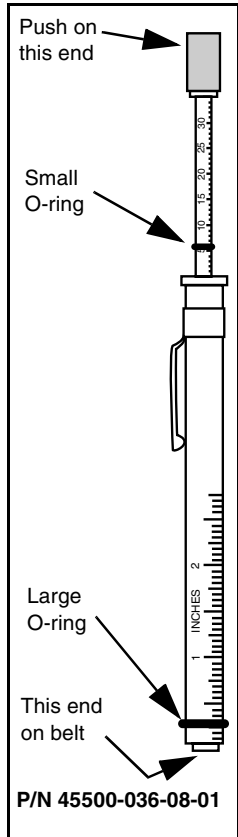

Figure 24. Belt Tension Tester
- 3) Position the bottom of the large O-ring on the tester (Figure 24) at the deflection indicated on the poly chain belt Table 6. Set the small O-ring on the tester to zero.